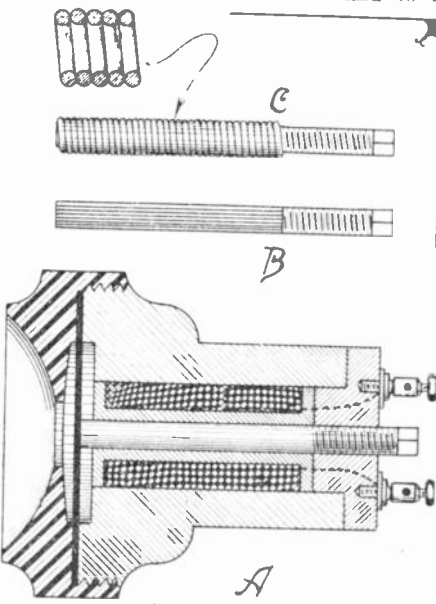

Fig. 13
A simple molecular telephone receiver patented in 1881, by Eaton is shown in Figure 13. Three forms are shown. At (A) the longitudinal expansion and contraction of the iron bar acts directly on the diaphragm. The diaphragm may be of any insulating material, such as mica. Although a magnetic diaphragm may be used, it is not required, as the pole tip of the electro-magnet is always in contact with the diaphragm. In this receiver a solid iron core is used, but better results are reported with the iron wire core shown at (B), made of a number of soft iron wires in a bundle. The most interesting one is shown at (C), which employs a core shaped like a helical spring, wound so that successive turns are in actual contact. This one is claimed to be far superior to either of the other two, comparable in results with an ordinary magneto-telephone receiver. The helical core is preferably made of annealed piano wire.